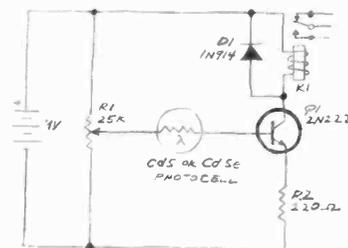

Fig. 5. Light-activated relay.
**Light-Activated Relay.** Finally, Figure 5 shows a simple but effective light-activated relay which uses only half a dozen components. As light falling on the photoresistor increases in intensity, *Q1* turns on and energizes the relay. *D1* prevents any high-voltage kick created when the relay coil turns on and off from damaging *Q1*. I used a 2N2222 for *Q1*, but any general-purpose npn switching transistor will work. Resistor *R1* serves as a voltage divider which sets the circuit's trigger point. ◇